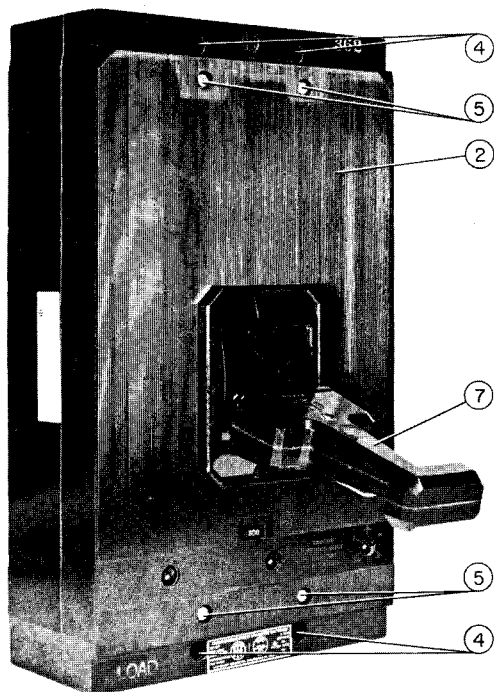

Fig. 1 — Front View of Circuit Breaker
1. Remove extension handle (7, Fig. 1).
2. Remove four cover screws (5, Fig. 1) and circuit breaker cover (2, Fig. 1).
4. Release circuit breaker mounting screws (4, Figs. 1 and 3); breaker is now free of its mounting.
1. Loosen four breaker mounting screws (4, Figs. 1 and 3) and pull circuit breaker forward or away from mounting surface.
1. Remove four cover screws (5, Fig. 1) and breaker cover (2, Fig. 1).
6. Replace cover, cover screws (2 and 5, Fig. 1) and add operating handle extension (7, Fig. 1).
1. Remove operating handle extension (7, Fig. 1), cover screws (5, Fig. 1) and circuit breaker cover (2, Fig. 1).